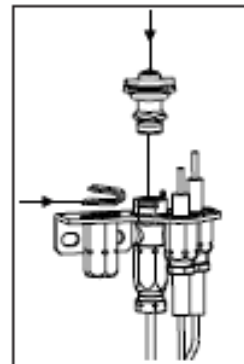

fig. 3
7. First replace the pilot hood by aligning the tab on the base of the hood with the slot in the side of the pilot journal, and push the hood down, onto the pilot bracket (fig. 3). The hood must sit squarely on the bracket for proper operation. Then replace the spring by pushing it on his seat (fig.3). Check to insure that the hood is properly seated onto the pilot bracket and that the spring is properly inserted onto his seat.